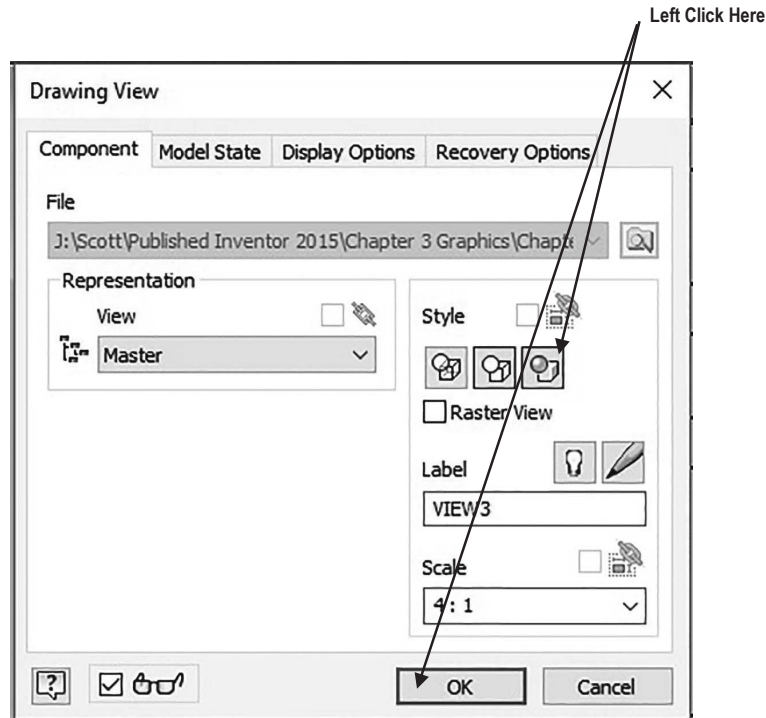

Figure 26
31. The Drawing View dialog box will appear. Left click on the “blue sphere.” Left click on **OK** as shown in Figure 26.